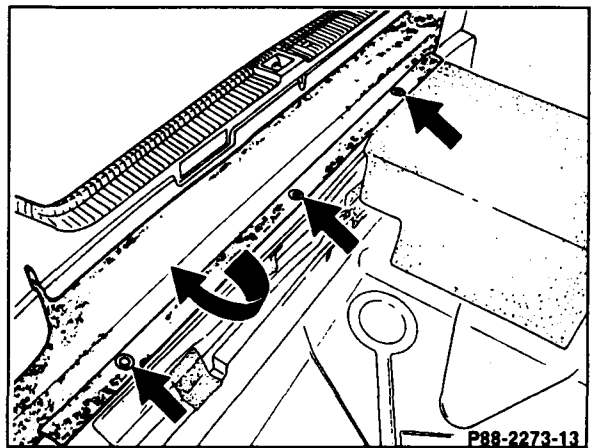

Figure 10
2. Remove rivets (arrows, Figure 10).